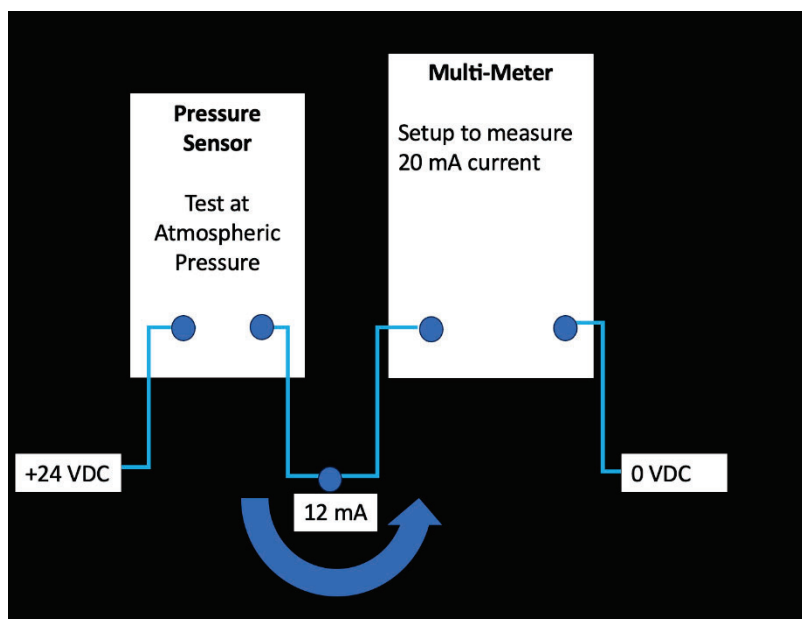

Figure 8-12: Block diagram for setting up Pressure Sensor Test Procedure
- **Figure 8-12** shows a basic block diagram illustrating how to set up your test.